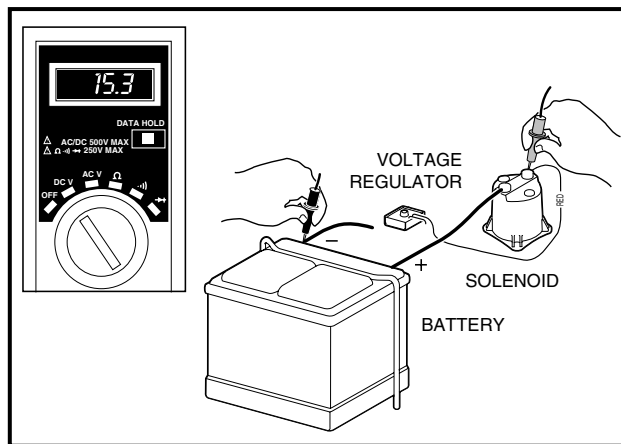

FIGURE 12-27
4. With the battery in good condition and fully charged, and with proper ventilation, run the engine for several minutes to bring the voltage regulator to operating temperature, then release the accelerator pedal to stop the engine. Using a multimeter set to DC volt (DCV), place the red (+) probe on the large post of the solenoid with the red wire from the voltage regulator attached. Place the black (-) probe on the negative (-) post of battery. Depress the accelerator to start the engine, and run it at full governed speed. If the reading is between 14.7 and 15.3 volts, the regulator is good. If the reading is lower than 14.7 volts but rising steadily, check battery condition (**See Hydrometer Test, Page 128**). If the reading is lower than 14.7 volts and not rising, and the starter/generator is good; or if the reading is over 15.3 volts and continues to rise, replace voltage regulator (**Figure 12-27**).